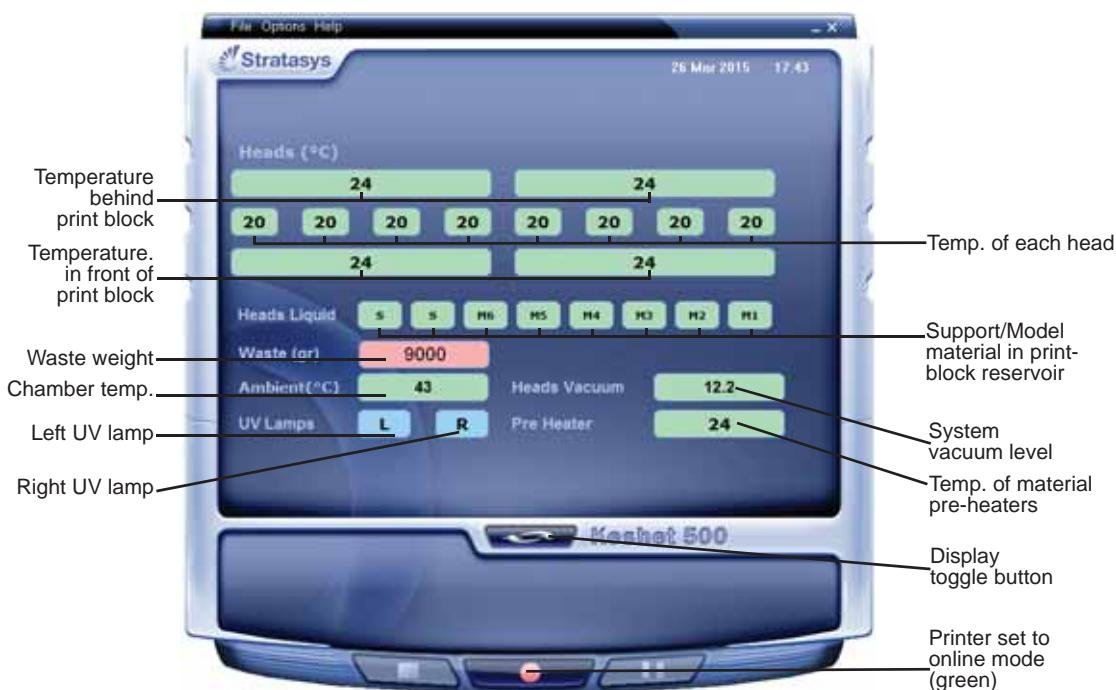

Figure 6-4: Printer indicators
The color of the button changes from red to green (see figure 6-4). If there is a job in the Job Manager queue, it is sent to the printer.
- For example, in figure 6-4:
The button changes from red to green (see figure 6-4 on page 6).